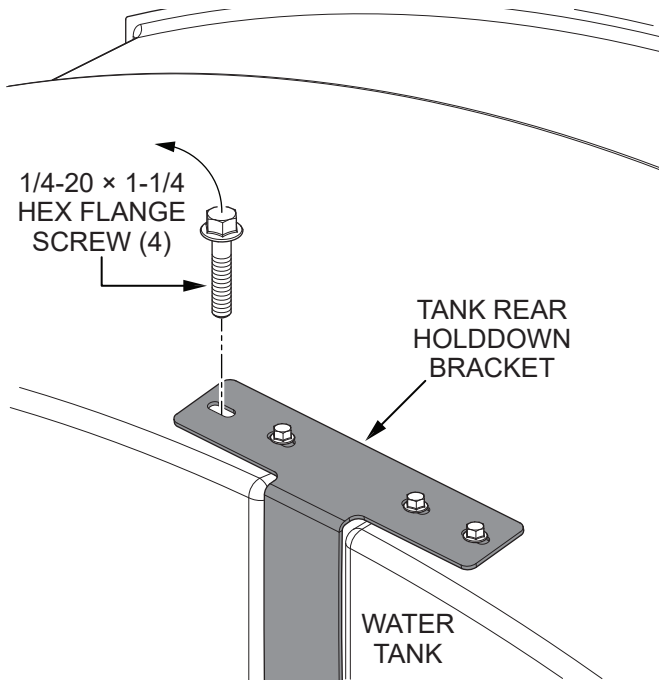
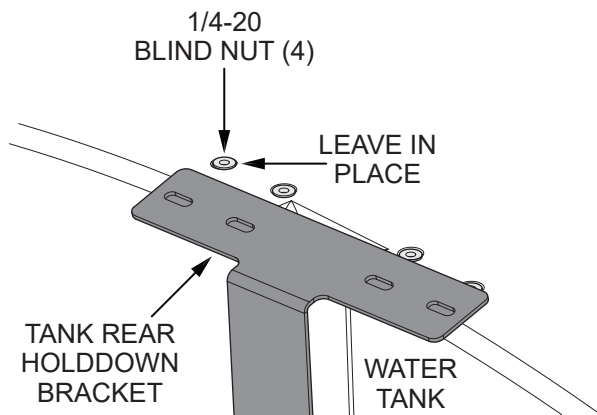

Figure 6. Remove Hex Flange Screws (Rear Of Tank)
Figure 7. Rear Holddown Bracket Blind Nuts (Leave In Place)
5. Remove the **four 1/4-20 × 1-1/4 hex flange screws** (Figure 6) securing the **tank rear holddown bracket** to the **water tank**. Leave the **four 1/4-20 blind nuts** (Figure 7) in place. Save the screws for re-use later in the procedure.